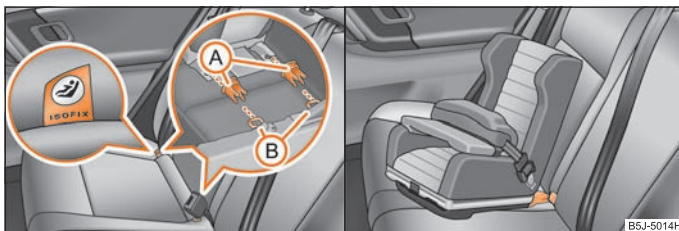

Fig. 128 Locking eyes (ISOFIX system) / Push the ISOFIX child seat into the installed mounting funnels
- Insert the mounting funnels (A) onto the locking eyes (B) between the seat backrest and the seat cushion ⇒ fig. 128.
- Push the notched arms of the child seat into the locking eyes until they are heard to lock in place ⇒ fig. 128.